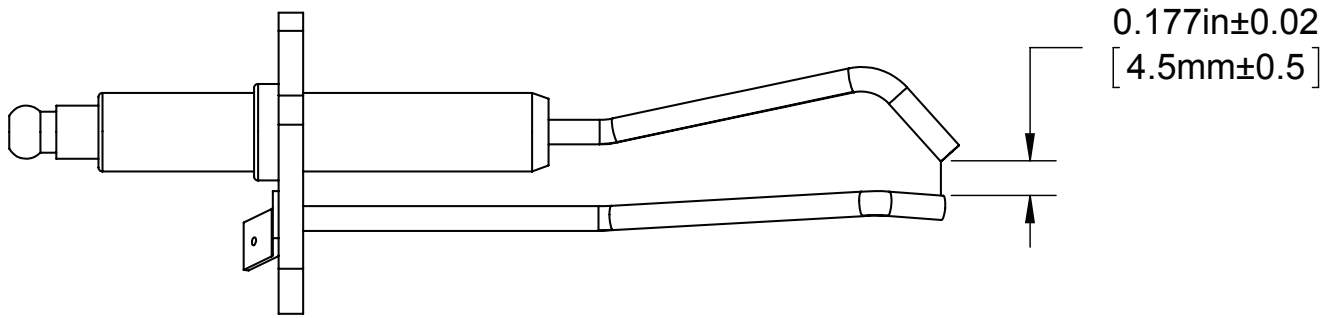

Figure 13.3: Igniter Gap
- o. **Inspect igniter electrode and flame sensor** for deposits. Clean any found with steel wool. Do not use sand paper or Emory cloth for this cleaning. Inspect the ceramic portion of both of these parts for cracks and replace if any are found. Verify that the igniter gap is within the range shown in Figure 13.3.